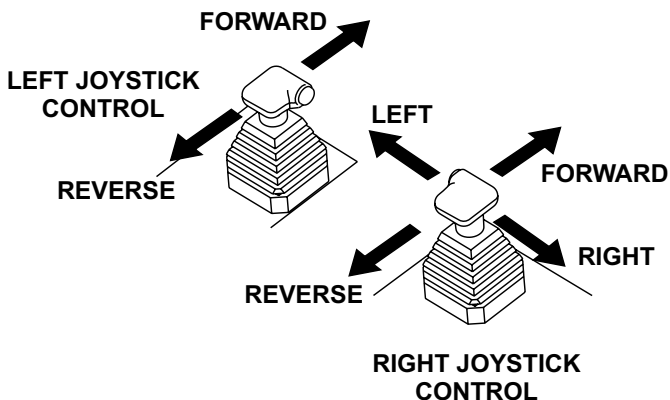

Figure 11. Left and Right Control Joysticks
Two joysticks (Figure 11) located to the left and right of the operator's seat provide directional control for the HHX Ride-On Power Trowel. Table 4 illustrates the various directional positions of the joysticks and their effect on the ride-on trowel.
- Push both the left and right Control Joysticks forward. See Figure 11.